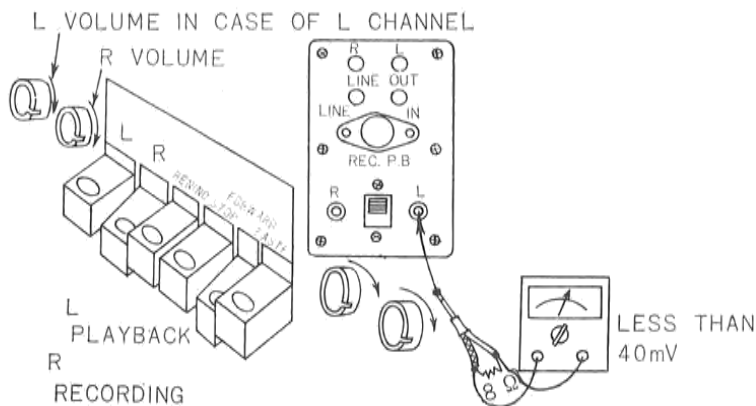

Fig. 14
4) Bias trap adjustment.....Fig. 14
- c) Connect 8Ω pure resistor to the L channel speaker jack (EXTERNAL SPEAKER L) in a playback condition as shown in Fig.14, then connect V.T.V.M. (vacuum tube voltmeter) to both ends of it. A high-frequency voltage leaking from the oscillating circuit is indicated in this condition. Turn the core of the TRAP COIL (L1) to produce minimum voltage (under 40mV).
- o Next, adjust the trap for R channel (R), following the same procedures as used in L channel (L) adjustment.